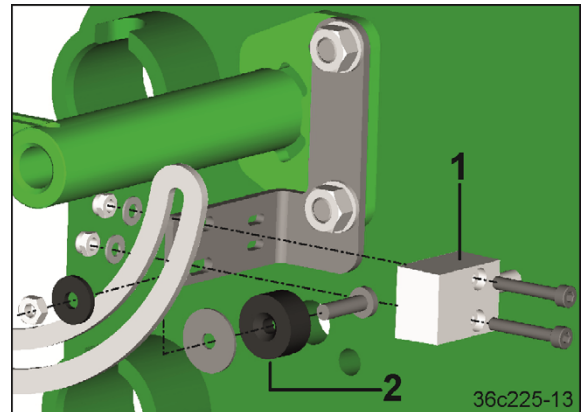

Fig. 100
9. Fasten the working position sensor (Fig. 100/1) and the adjustment magnet (Fig. 100/2).
The working position sensor (Fig. 100/1) transmits the pulse for switching the seed tube monitoring on and off.